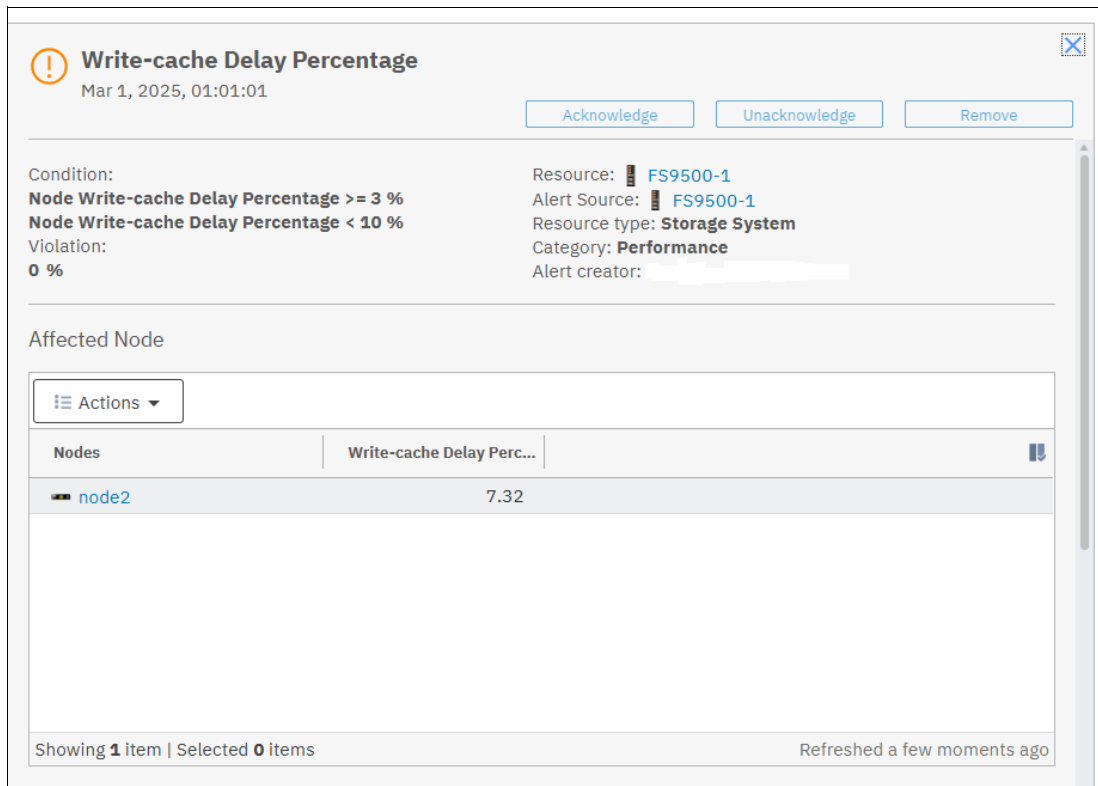

Figure 7-2 Alert details
- Figure 7-2 on page 157 shows more details about the alert, including the storage system that it was generated on. You can see that the error affected Node 2 in the storage system that is named FS9500-1.